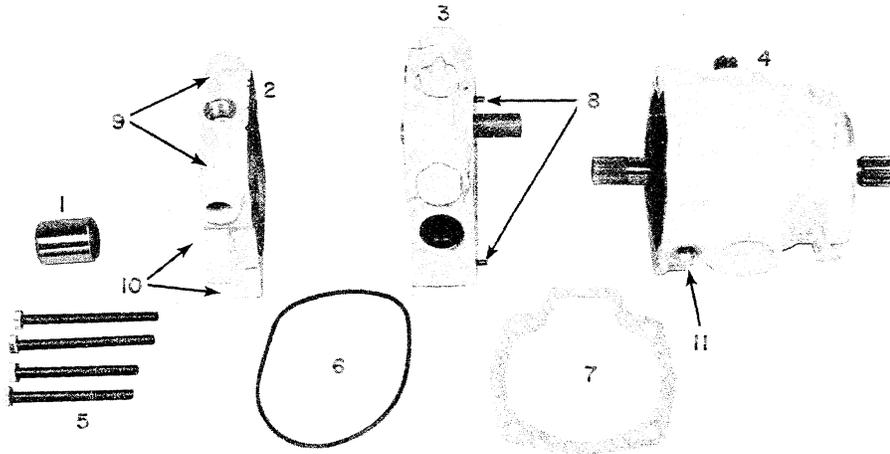
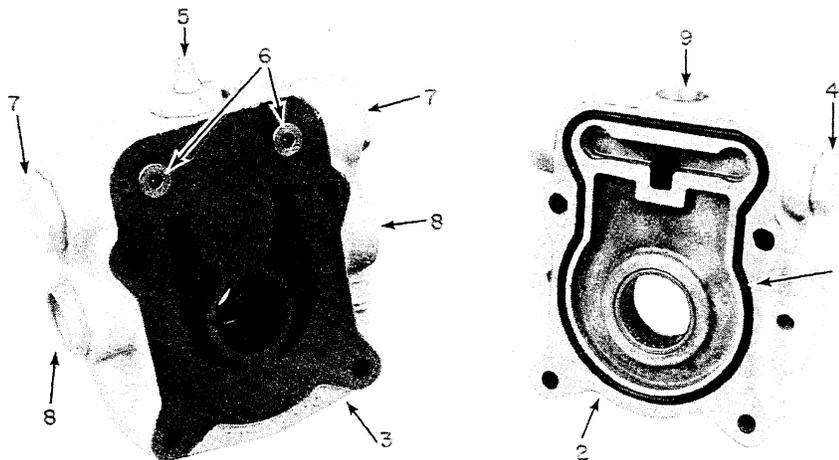
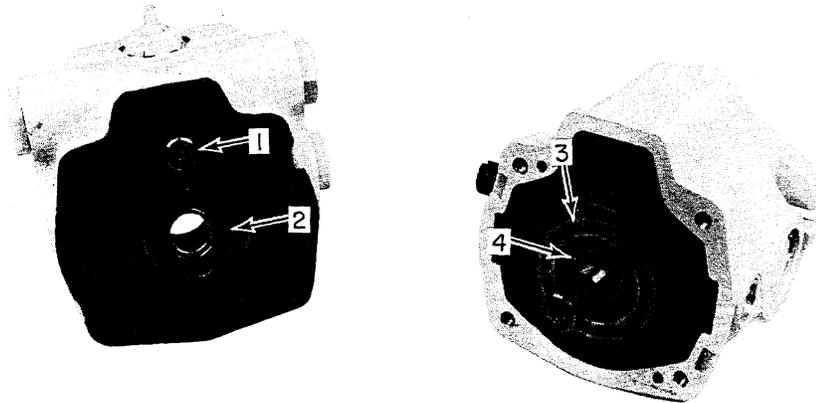

FIGURE 23
FIGURE 24
FIGURE 28
1. Figure 23 shows the disassembly of the right (rear) hydrostatic pump assembly.
3. Remove the four cap screws (5), Figure 23. Coupler (1) should be easily removed from adaptor plate (2).
4. Hold housing (4) securely and use a plastic mallet to tap adaptor plate (2) and loosen it from the back plate assembly (3). It may be necessary to secure the pump drive shaft in a protected jaw vise with the housing up to tap the adaptor plate free.
5. Remove the adaptor plate (2) and set aside.
6. In a similar manner, use a plastic mallet to tap and loosen the back plate (3). Remove the back plate assembly and set aside. An O-ring (6) seals the adaptor plate to the back plate, and a gasket (7) seals the back plate to the housing (4).
7. Figure 24 shows the two mating surfaces between back plate (3) and adaptor plate (2).
8. In Figure 24, (1) is the sealing O-ring, (4) plug, (5) tow valve, (6) charge check valves, (7) main system relief valves (4,000 psi or 4,500 psi — check parts book for application), (8) high pressure oil ports to hydrostatic motor, and (9) charge oil inlet port to the adaptor plate.
13. Figure 28 shows the mating surfaces between the back plate and the housing assembly. The cam plate stop (1) is mounted on the back plate. The kidney ports at (2) make up the high and low pressure sides of the oil circuit between the rotating group (3) and the back plate. A gasket (7), Figure 23, is used to seal the back plate to the housing.
CAUTION: THE FOLLOWING PROCEDURE SHOULD BE USED IF THE SPRING IS TO BE REMOVED FROM THE PISTON BLOCK. THE SPRING IS HIGHLY COMPRESSED AND THE SNAP RING (4), FIGURE 28, SHOULD NOT BE REMOVED WITHOUT COMPRESSING THE SPRING FIRST.
- C. The piston block side of the back plate should be smooth and free of scratches and burrs in the area shown at (2), Figure 28. The cam stop should be tight in the back plate as shown at (1), Figure 28. If scratches on the back plate surfaces are noted, the block should be replaced.
- A. Inspect the piston block surface at (3), Figure 28, for any scratches or burrs. This surface should be smooth. Replace block if scratches are present.